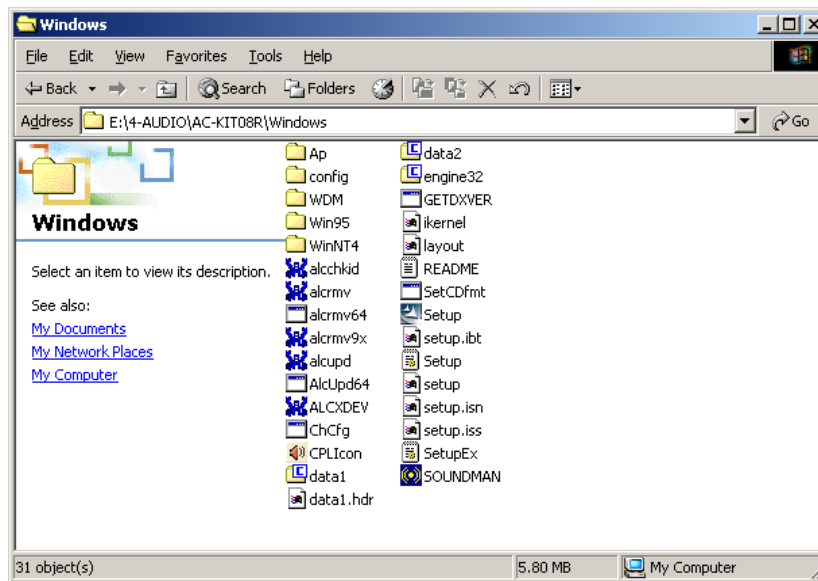

Figure 7-26: CD 4-AUDIO\AC-KIT08R\Windows Folder
- Step 2:** From the main driver menu, navigate to **X:\4-AUDIO\AC-KIT08R\Windows** (or other appropriate OS). **X:** represents the system CD drive. A new window appears showing the folder contents (**Figure 7-26**).